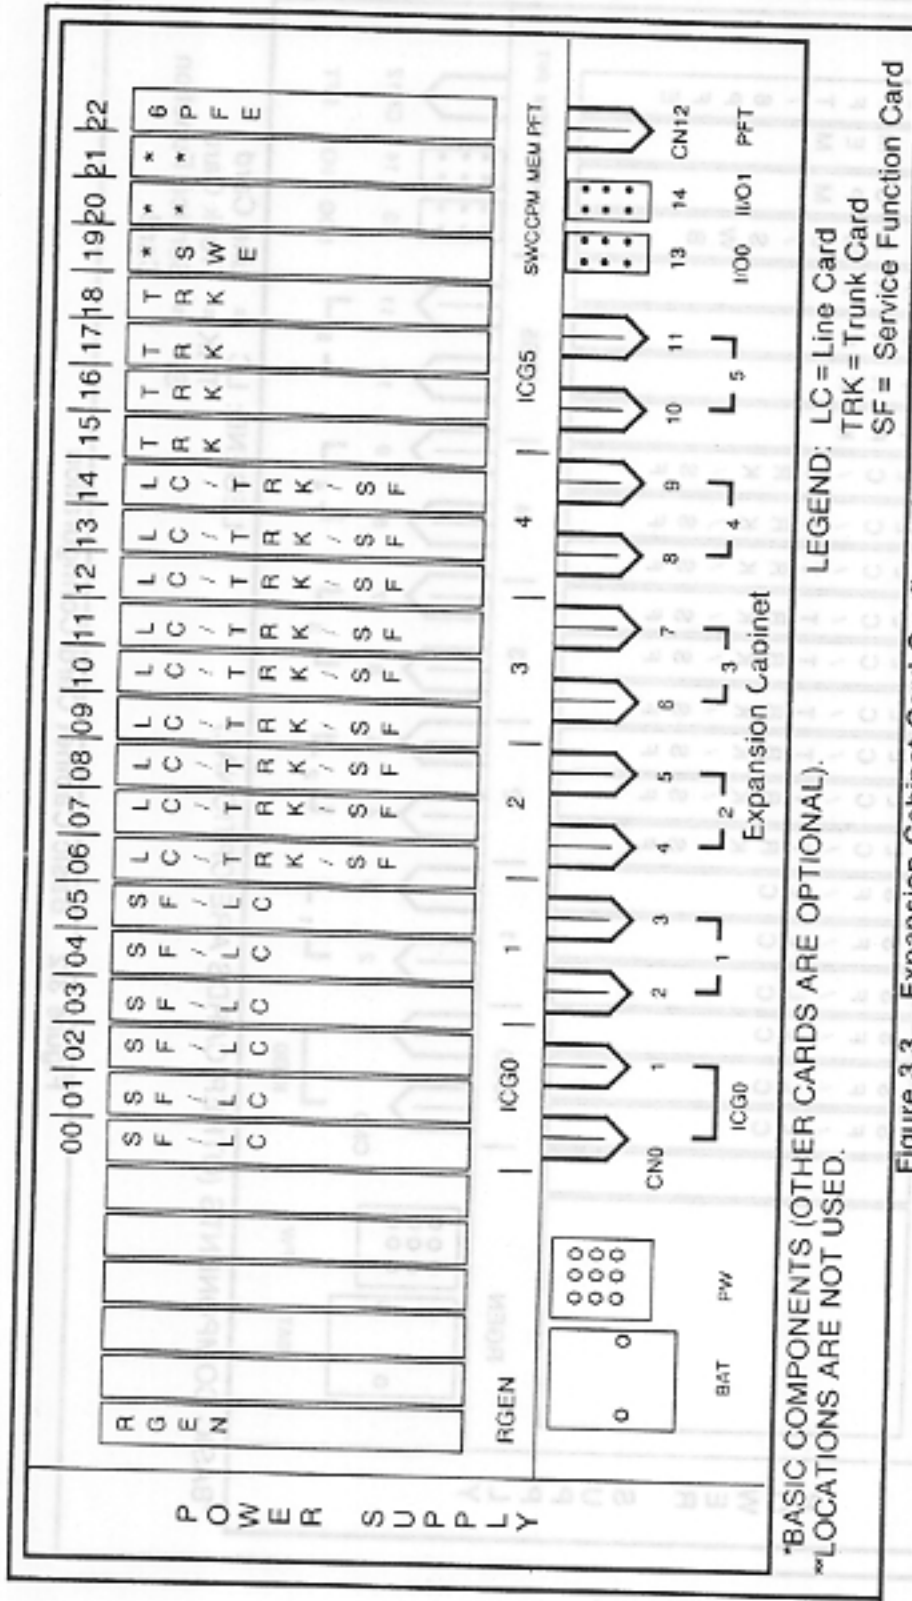

Figure 3.3 Expansion Cabinet Card Configuration
3.3.2 Figure 3.3 shows the possible line, trunk, and service function card configurations for the expansion cabinet.